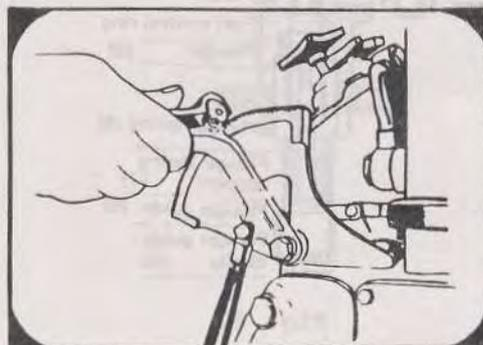

Fig. 22
- (a) Set governor handle in operation position, as shown in Fig. 22.